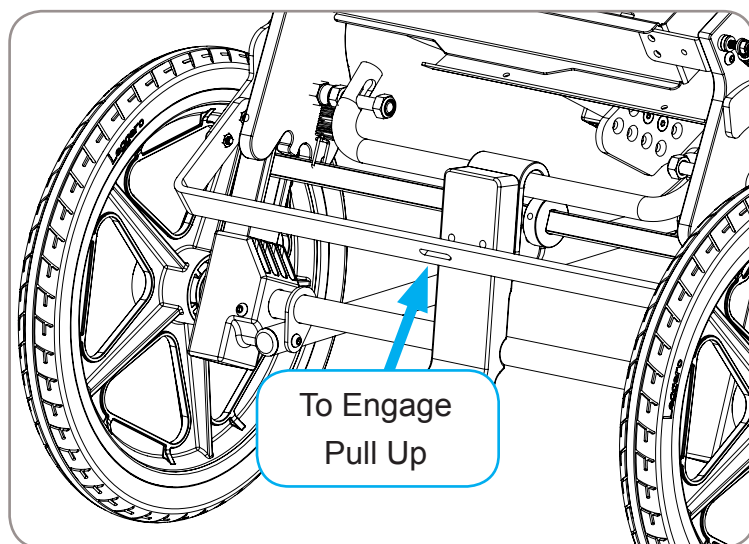

Figure 2
1. To engage wheel locks, pull up on center of crossbar with foot. Reference Figure 2.